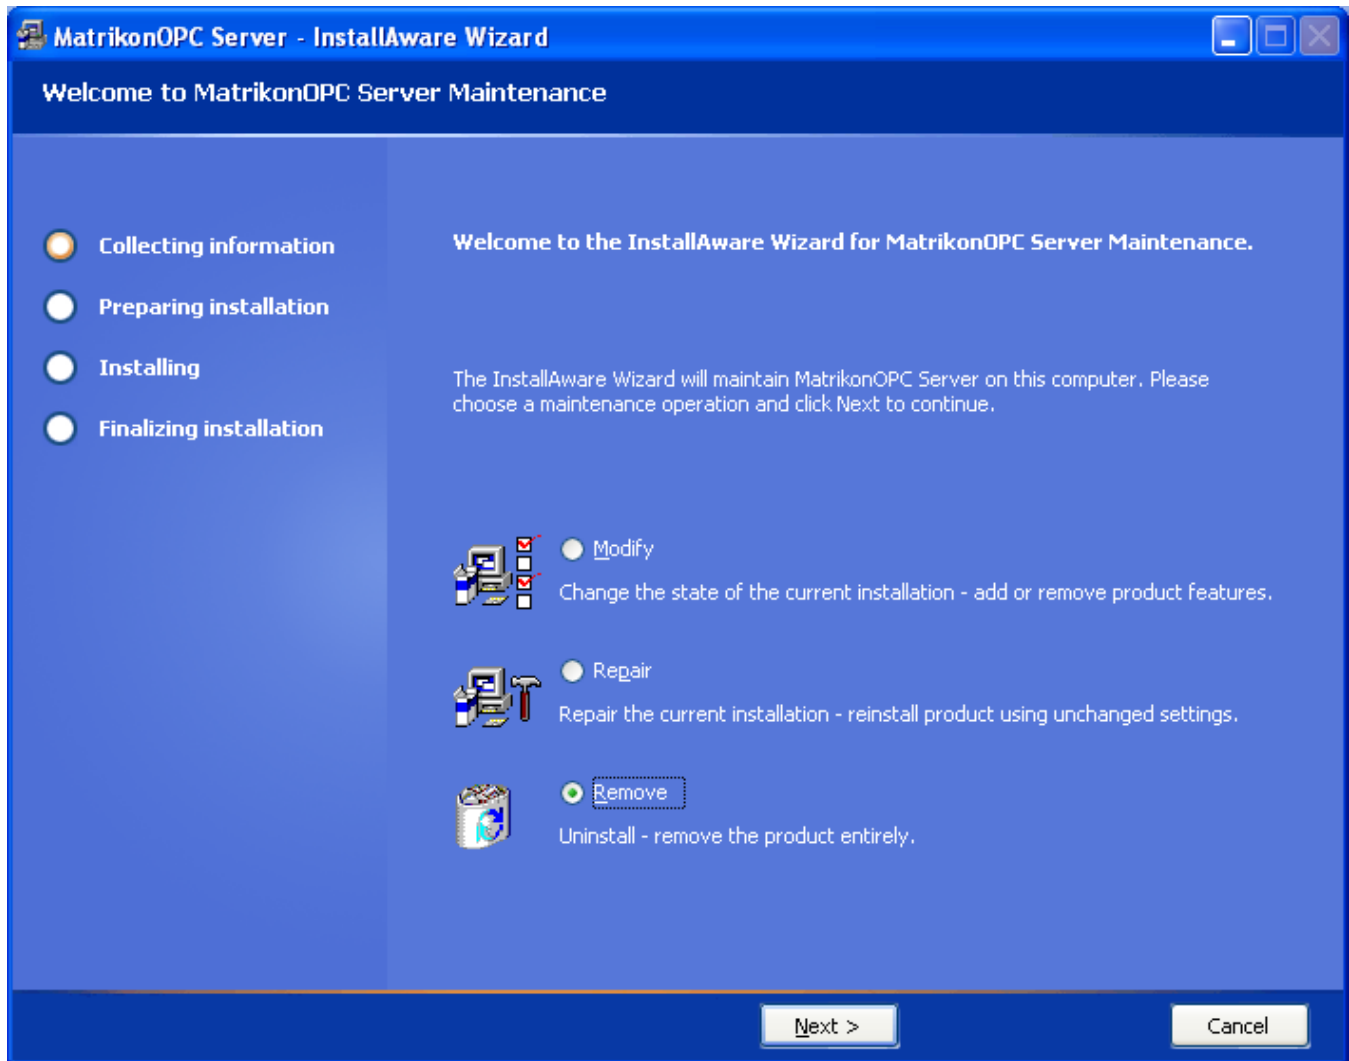

Figure 78 - Welcome to MatrikonOPC Server for IEC 61850/61400-25 Maintenance Screen
6. The **MatrikonOPC Server for IEC 61850/61400-25 – InstallAware Wizard** appears, and the **Welcome to MatrikonOPC Server for IEC 61850/61400-25 Maintenance** screen (Figure 78) is displayed.